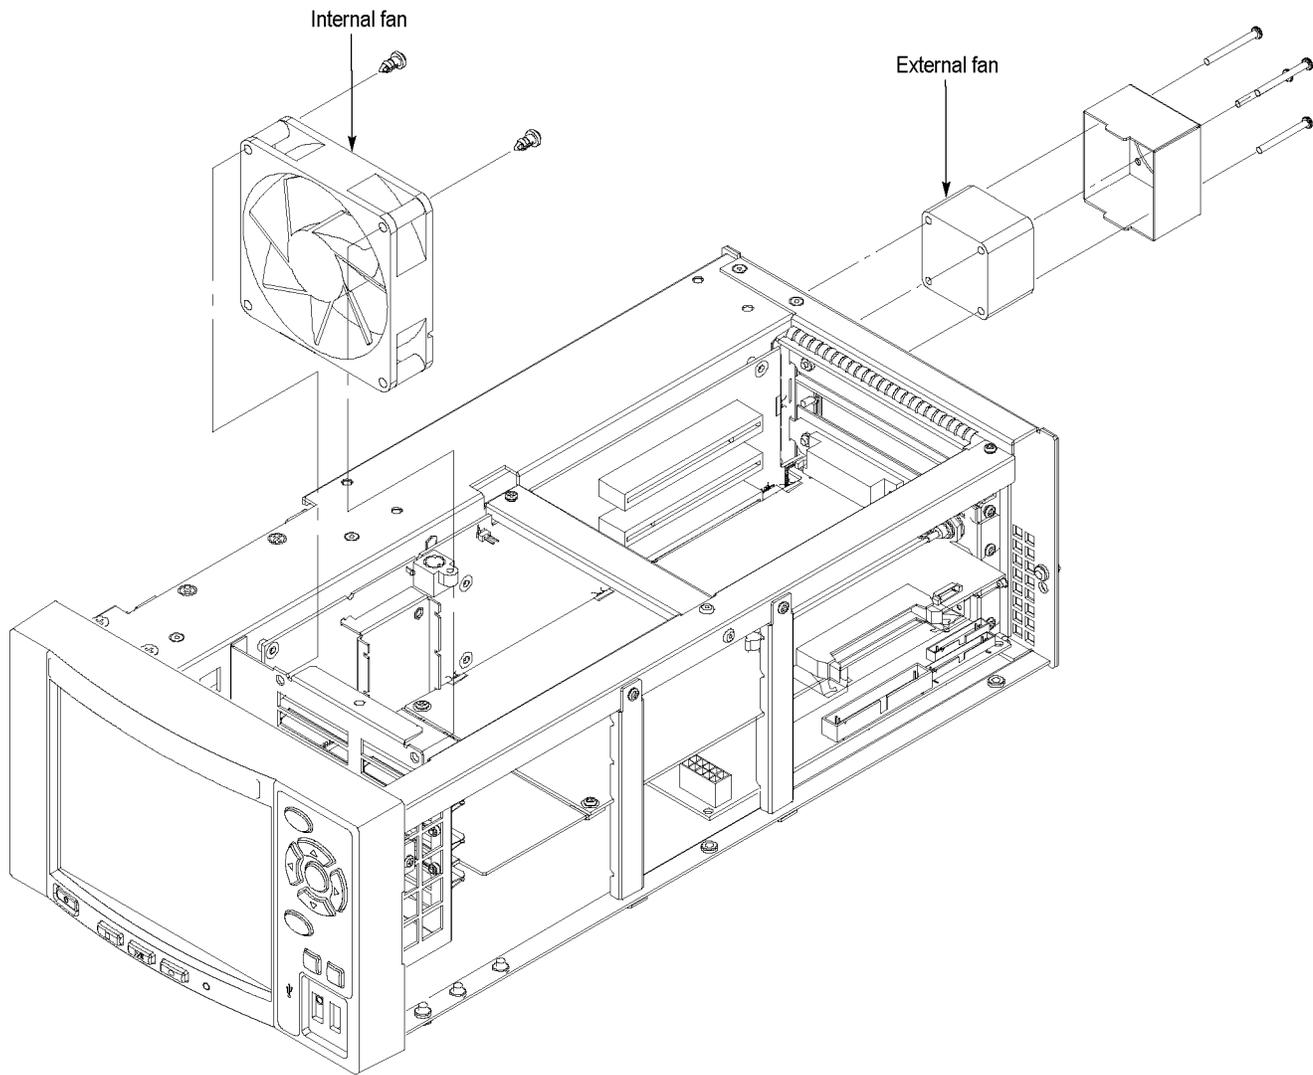

Figure 3-14: Internal and external fan removal
3. Remove the internal fan: (See Figure 3-14.)
5. Remove the external fan: (See Figure 3-14.)